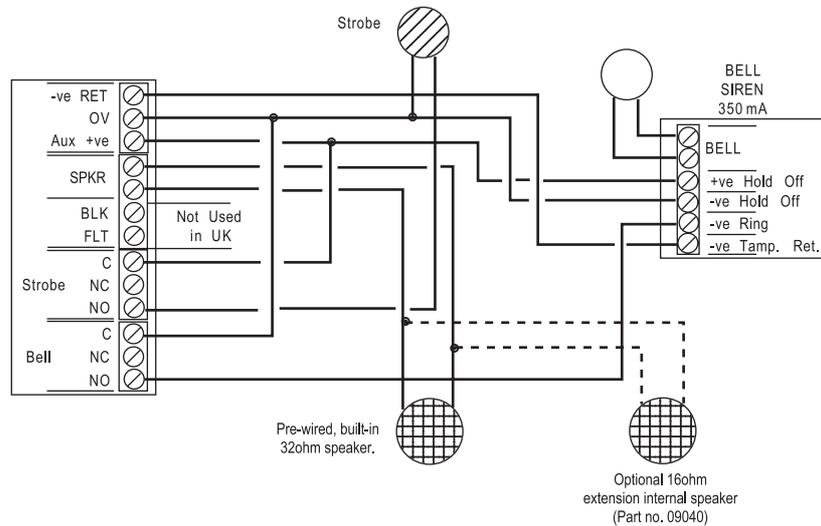

Figure 1. External SAB Bell/Strobe and Internal Speaker Connections
1. SAB shown for negative applied. The connections shown in Figure 1 are only an example of a typical SAB module. See the bell manufacturer's instructions supplied with individual units for more information.